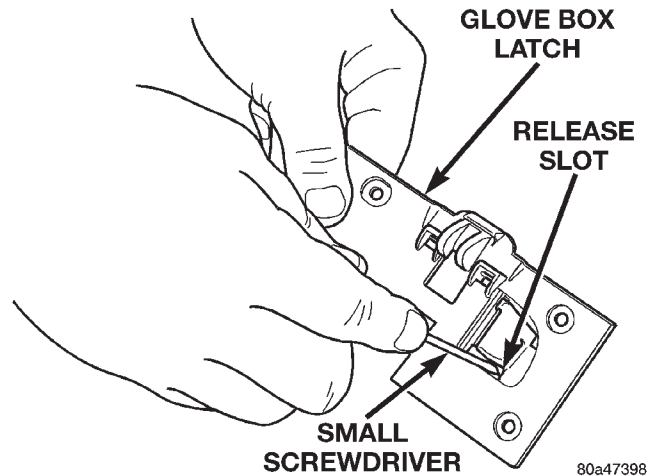

Fig. 17 Glove Box Lock Cylinder Remove/Install
(1) Disconnect and isolate the battery negative cable.
(2) Remove the glove box from the instrument panel. Refer to **Glove Box** in the Removal and Installation section of this group for the procedures.
(3) Remove the glove box latch and handle from the glove box. Refer to **Glove Box Components - Glove Box Latch and Handle** in the Removal and Installation section of this group for the procedures.
(4) Insert the key into the glove box lock cylinder.
(5) Insert a small screwdriver into the retaining tumbler release slot and depress the retaining tumbler (Fig. 17).